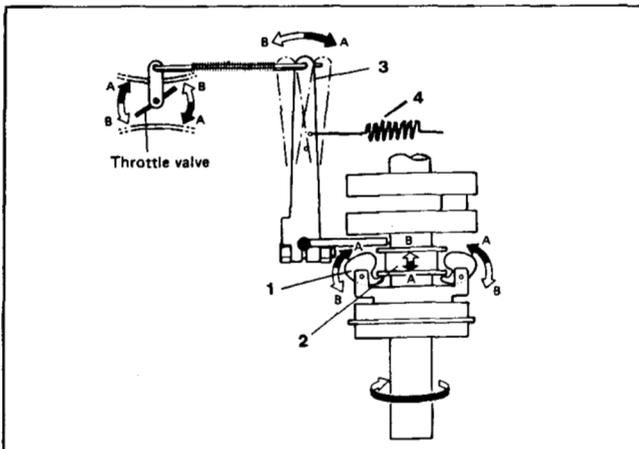

Figure 2-13
(Refer to Figure 2-13.) As load on the engine increases the engine speed will start to decrease. As the engine slows down the centrifugal force of the flyweights (1) will decrease. The governor return spring (4) will cause the governor collar (2) to move in direction (A). The governor arm (3) will also move in direction (A) causing the throttle to open until the centrifugal force of the flyweights are in balance with the governor return spring. As the load on the engine decreases the engine will speed up causing the flyweights to move out forcing the governor collar in direction (B). The collar will act against the governor arm moving it in direction (B) and also moving the throttle in direction (B). The engine speed will drop until once again the flyweight and return spring are in balance (Figure 2-13).